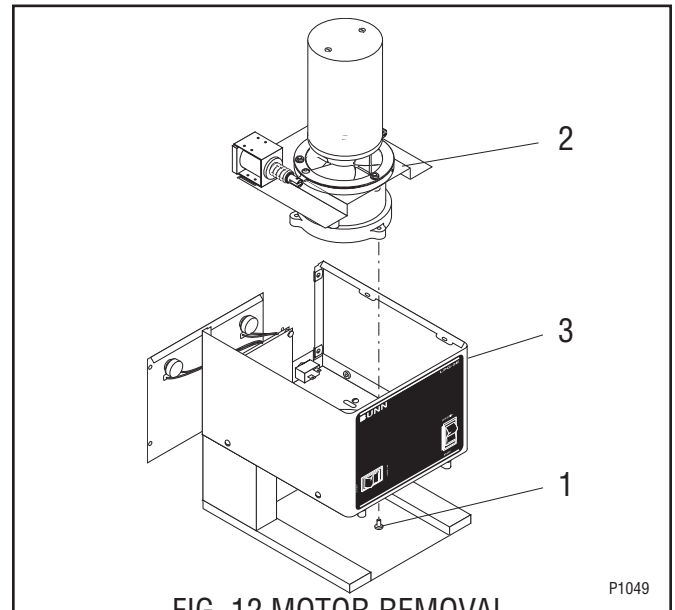

FIG. 12 MOTOR REMOVAL
3. Refer to Fig 12. Remove the three #10-32 x .25" screws (1) securing the motor to the motor support bracket.
4. Remove the motor, solenoid and solenoid components (2) from the hopper housing (3) as an assembly.
29. Install load disc (11) flat side towards rotor.
30. Install burr housing cap (10), adjusting screw, dechaffing spring plate and dechaffer support as an assembly to the new motor and housing assembly (17) using two #10-32 fillister head screws.
32. Install solenoids, solenoid bracket and mounting ring (6) as an assembly on the new motor with the solenoids located to the opposite side of the burr housing divider (8).
33. Install spacer plate (4) on burr housing divider (8) making sure the hole in the spacer plate (4) lines up with the hole in the mounting ring (6).
34. Install solenoid plunger with spring and slide plate (3) as an assembly into the solenoid coil. Place slide plate on the dowel in the mounting ring. Repeat for the opposite side.
35. Place filler plate (2) on mounting ring (6) over the top of the slide plates (3) with the holes in the filler plate in line with the holes in the mounting ring.
36. Install retaining ring w/hopper gasket (1) using three #8-32 pan head screws and three #8-32 keps nuts.
37. Refer to Fig. 12. Install motor, solenoids and solenoid components (2) in the hopper housing (3) using three #10-32 truss head screws (1).